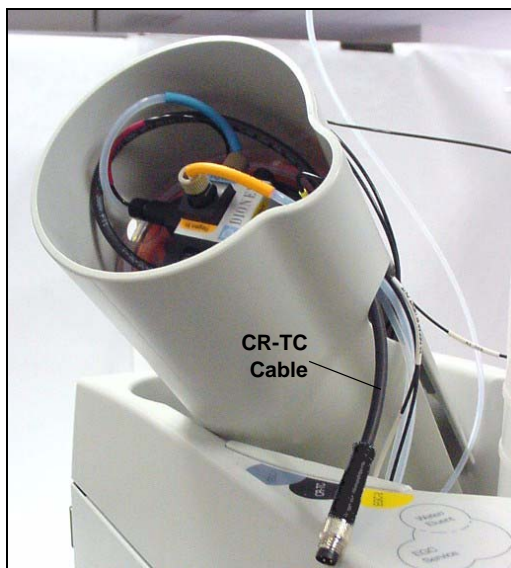

Figure 5-61. CR-TC Cable
11. Feed the CR-TC cable through the slot on the side of the EGC holder (see Figure 5-61).